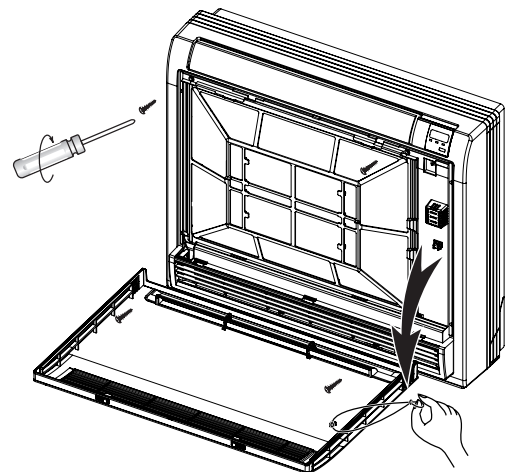

Figure 5.2.2
- 2) Open frontal grille to 90°, after removing the string (see Figure 5.2.2). Remove the grid from Indoor Unit, by detaching the bottom hinges. Unscrew the 4 screws of Indoor Unit's frontal panel (see Figure 5.2.2).